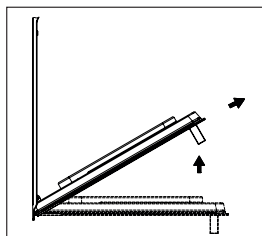

Fig.11-2
- › Now, shutting the door slightly, you can lift it out by pulling out the hooks "A" as shown in figure 11-2.